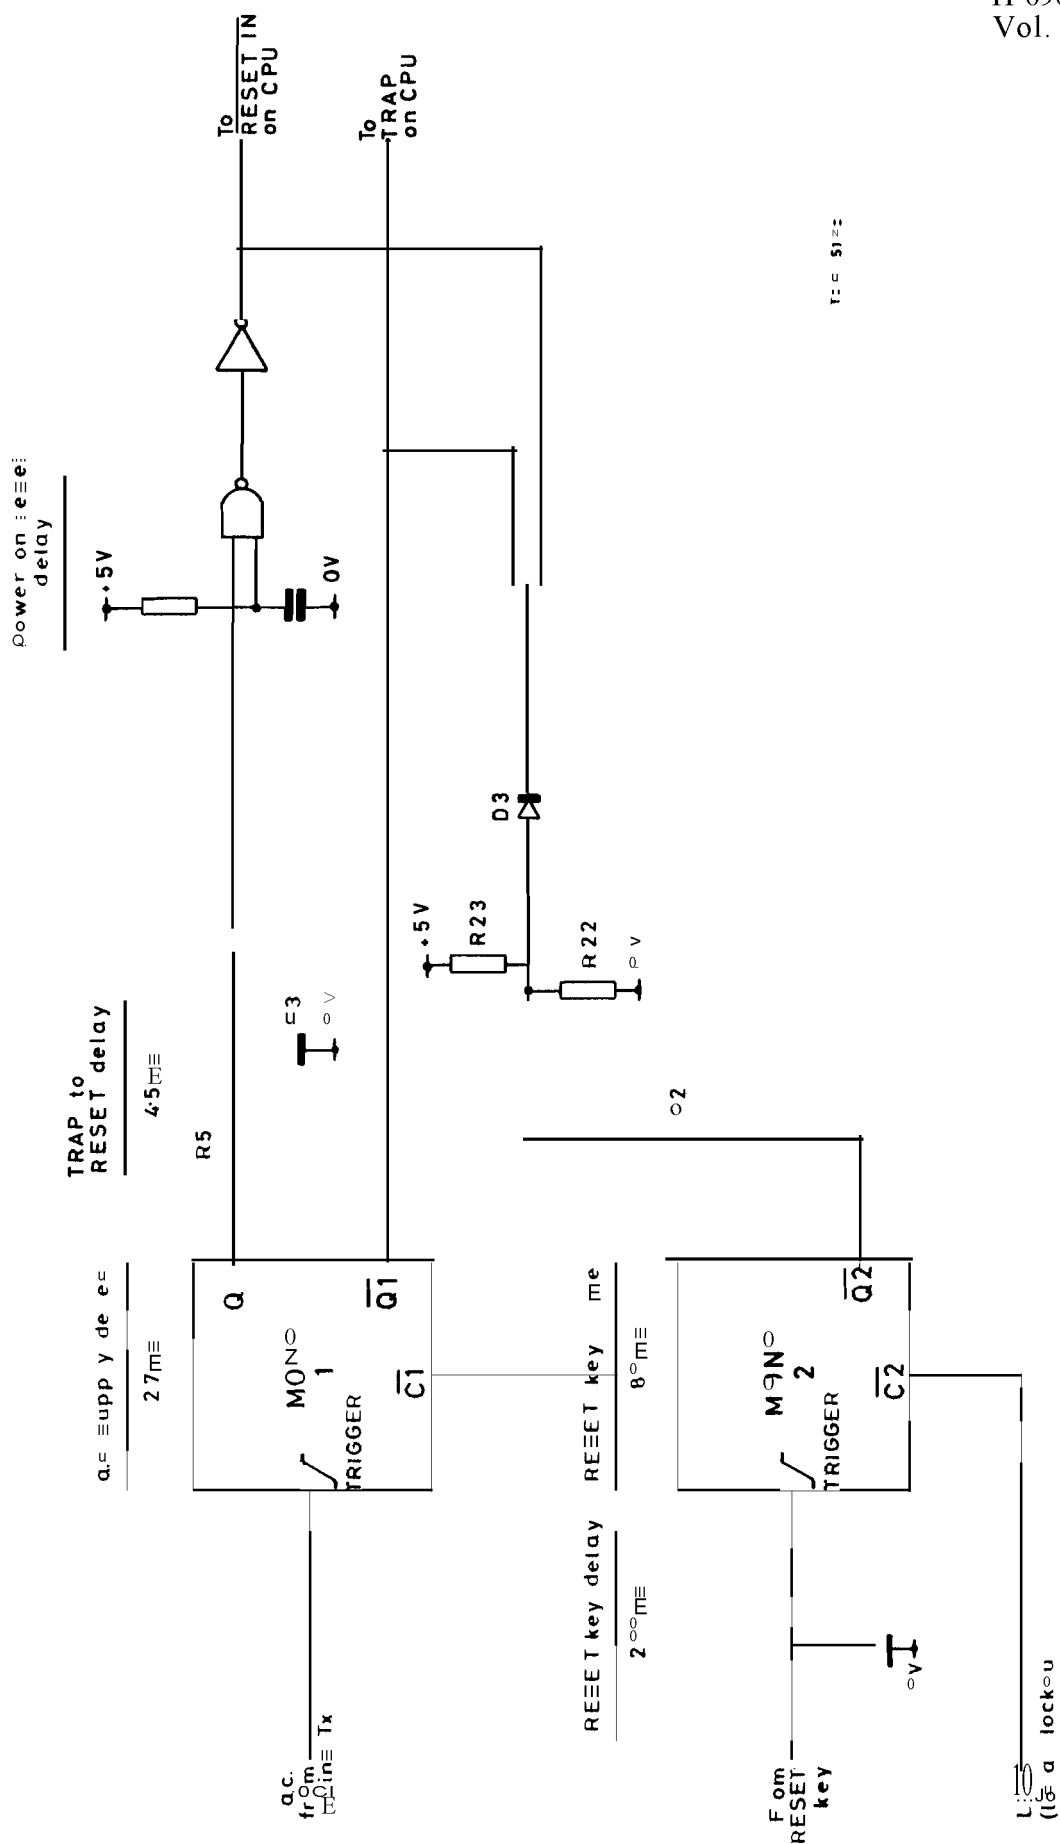

Fig. 10 Simplified reset control circuit
65. **Reset control.** The reset control circuitry is used to inform the c.p.u. of a power-down situation and to ensure that the c.p.u. itself powers down clearly. Fig. 10 shows a simplified diagram of the reset control circuit. The TRAP, non-maskable, interrupt is used to inform the c.p.u. of an impending loss of supply. When this interrupt occurs, the c.p.u. stores the current front panel settings in STORE 0 so that they may be recalled on power-up. When the RESET IN line on the c.p.u. becomes logical low the c.p.u. halts any processing and sends all outputs to a tri-state mode.